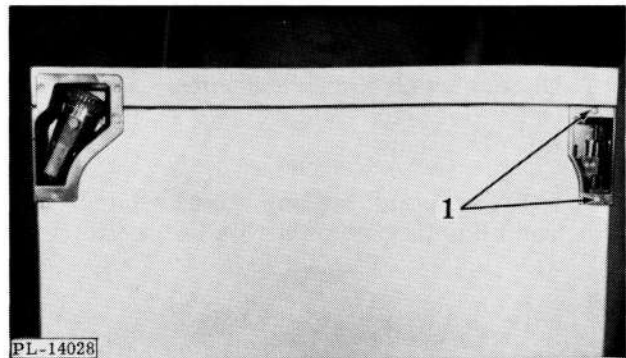

Fig. 45
1. Remove two mounting screws (1, Fig. 45) from power cord housing.
3. Pull power cord through opening in top left corner of cabinet. Replace cord in power cord housing. Install cord housing with two mounting screws (1, Fig. 45).